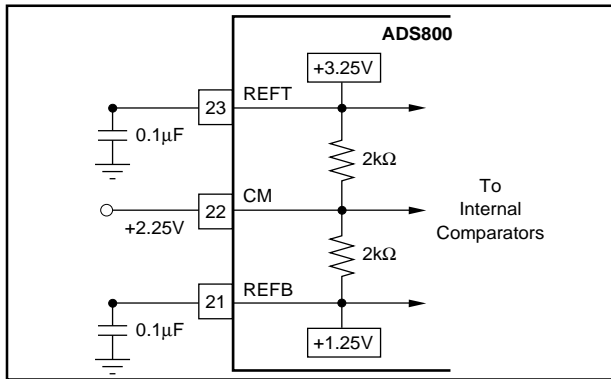

FIGURE 3. Internal Reference Structure.
The analog input of the ADS800 can be configured in various ways and driven with different circuits, depending on the nature of the signal and the level of performance desired. The ADS800 has an internal reference that sets the full scale input range of the A/D. The differential input range has each input centered around the common-mode of +2.25V, with each of the two inputs having a full scale range of +1.25V to +3.25V. Since each input is 2V peak-to-peak and 180° out of phase with the other, a 4V differential input signal to the quantizer results. As shown in Figure 3, the positive full scale (REFT) and the negative full scale (REFB) are brought out for external bypassing. In addition, the common-mode voltage (CM) may be used as a reference to provide the appropriate offset for the driving circuitry. However, care must be taken not to appreciably load this reference node. For more information regarding external references, single-ended input, and ADS800 drive circuits, refer to the applications section.